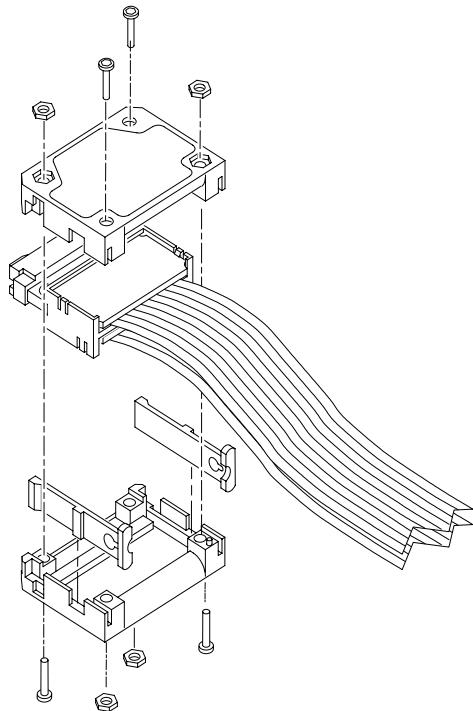

Figure 9: Reattaching the latch releases and case halves
9. Position a latch release on each side of the case half. See Figure 9.
10. Align the pin 1 case half with the pin 1 side of the connector, attach the case halves, and reconnect the screws as shown in Figure 9.